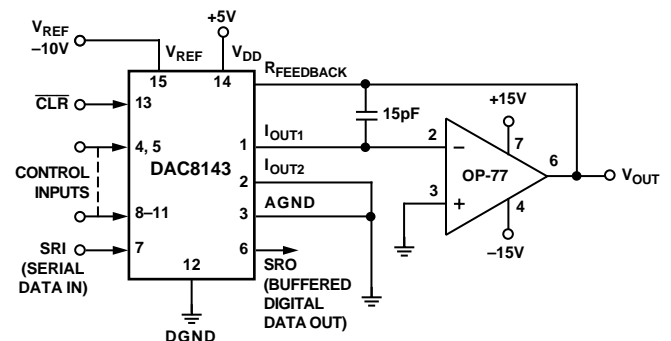

Figure 16. Unipolar Operation with High Accuracy Op Amp (2-Quadrant)
1. Phase compensation (see Figures 16 and 17).
The circuit shown in Figures 16 and 17 may be used with an ac or dc reference voltage. The circuit's output will range between 0 V and +10(4095/4096) V depending upon the digital input code. The relationship between the digital input and the analog output is shown in Table II. The V_{REF} voltage range is the maximum input voltage range of the op amp or ± 25 V, whichever is lowest.
- ¹Nominal full scale for the circuits of Figures 16 and 17 is given by $FS = -V_{REF} \left(\frac{4095}{4096} \right)$.
- ²Nominal LSB magnitude for the circuits of Figures 16 and 17 is given by $LSB = V_{REF} \left(\frac{1}{4096} \right)$ or $V_{REF}(2^{-n})$.
The transfer function for the DAC8143 connect in the multiply-mode as shown in Figures 16 and 17 is:
In most applications, linearity depends on the potential of I_{OUT1} , I_{OUT2} , and AGND (Pins 1, 2 and 3) being exactly equal to each other. In most applications, the DAC is connected to an external op amp with its noninverting input tied to ground (see Figures 16 and 17). The amplifier selected should have a low input bias current and low drift over temperature. The amplifier’s input offset voltage should be nulled to less than $\pm 200 \mu V$ (less than 10% of 1 LSB).